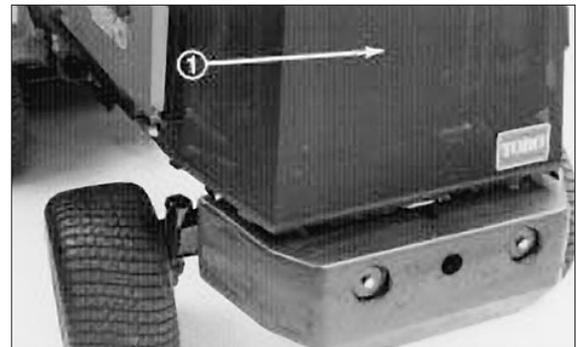

Figure 44
- B. Unscrew the knobs and remove the rear screen (Fig. 44). Clean the screen thoroughly.